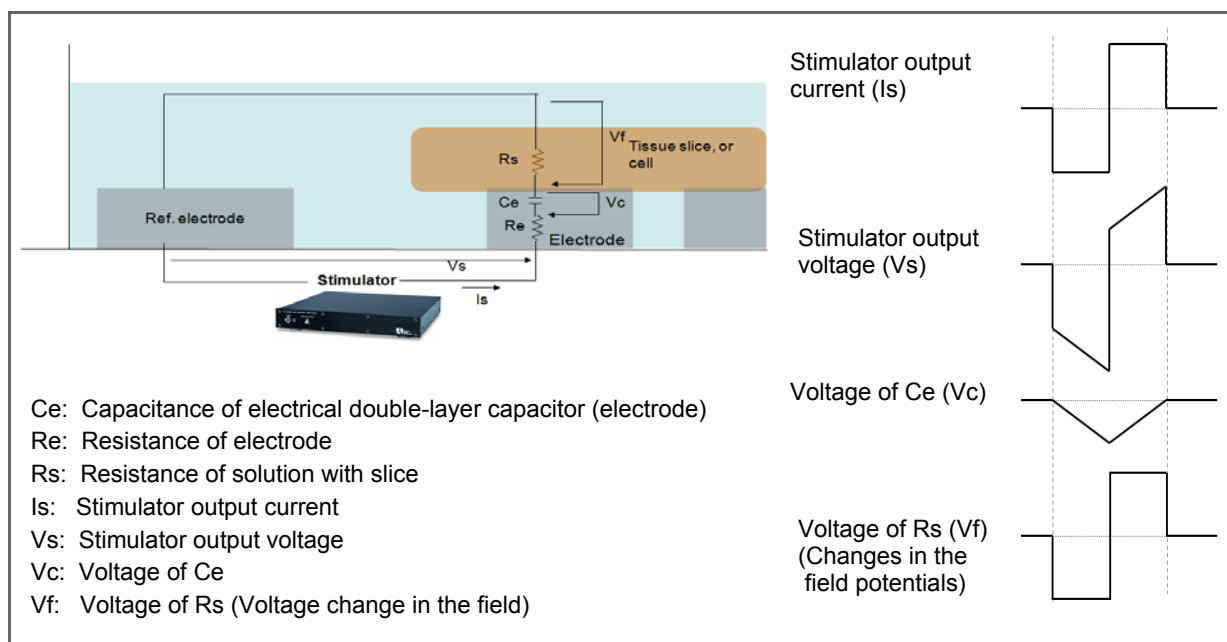
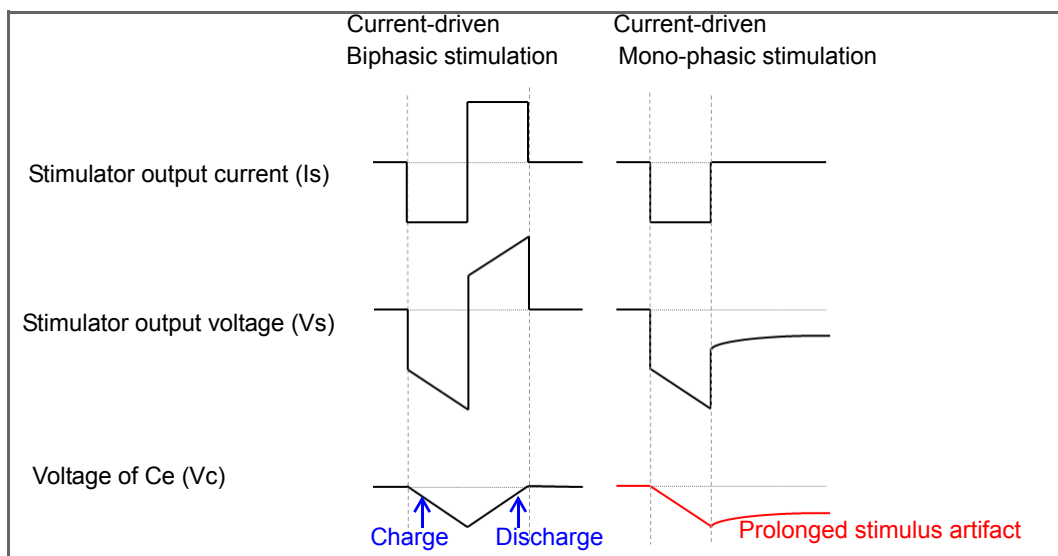

Figure 3. Stimulation using microelectrodes at the MED64 System.
Figure 4. Biphasic stimulation and mono-phasic stimulation.
The MED64 Head Amplifier has a built-in 2 channel current-driven stimulator that enables stimulation via any of the 64 electrodes. Figure 4 shows a schematic diagram of the extracellular electrical stimulation circuit for the MED64 Systems. The stimulus current flows from the selected electrode to reference electrodes. The applied stimulus current charges the “electrical double-layer capacitor” at the interface of electrode, subsequently changing the voltage of C_e (V_c). This voltage change modulates the field potential, which results in depolarization of cellular membranes. The field potentials (V_f) change according to the output current (I_s) as seen on the right in the Figure 3.
1. Make sure to apply **current-driven biphasic stimulation with identical durations for the negative and positive components** as seen in the Figure 4.
When biphasic stimulation is applied, the electrode is charged and discharged quickly. However, when mono-phasic stimulation is applied the electrodes need longer time to discharge than to charge, which will dramatically prolong stimulus artifacts and damage electrodes. (Refer to Figure 4.)